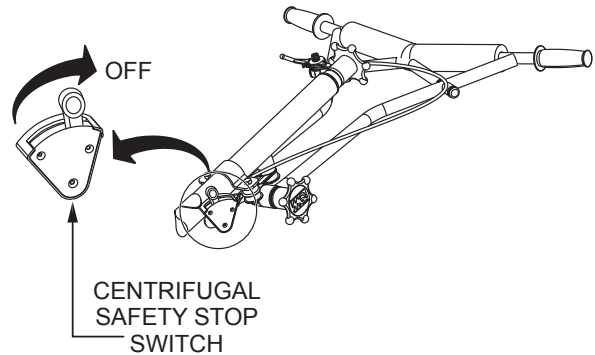

Figure 41. Centrifugal Safety Stop Switch (OFF)
3. Place the centrifugal safety stop switch (Figure 41) in the **OFF** position.